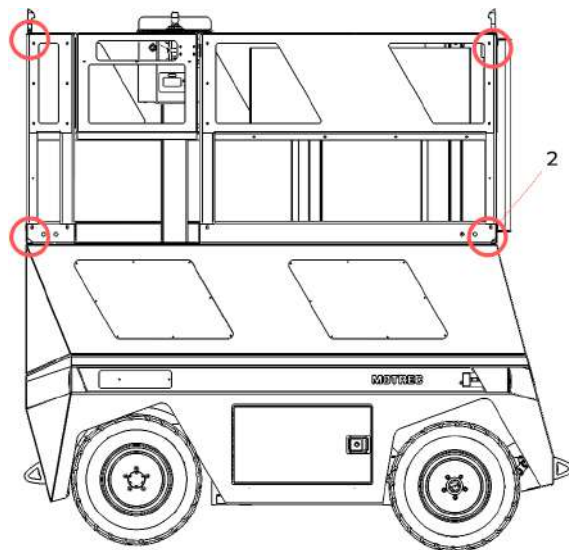

Figure 33. Guardrails.
- guardrails (2). (see Figure 33).